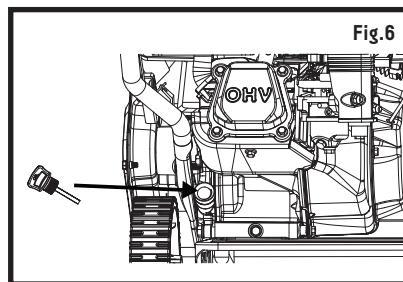

Fig.6
As shown in Figs. 6 to 11.
1. Remove the oil filler dipstick and wipe oil from it with a clean cloth (see Fig. 6).